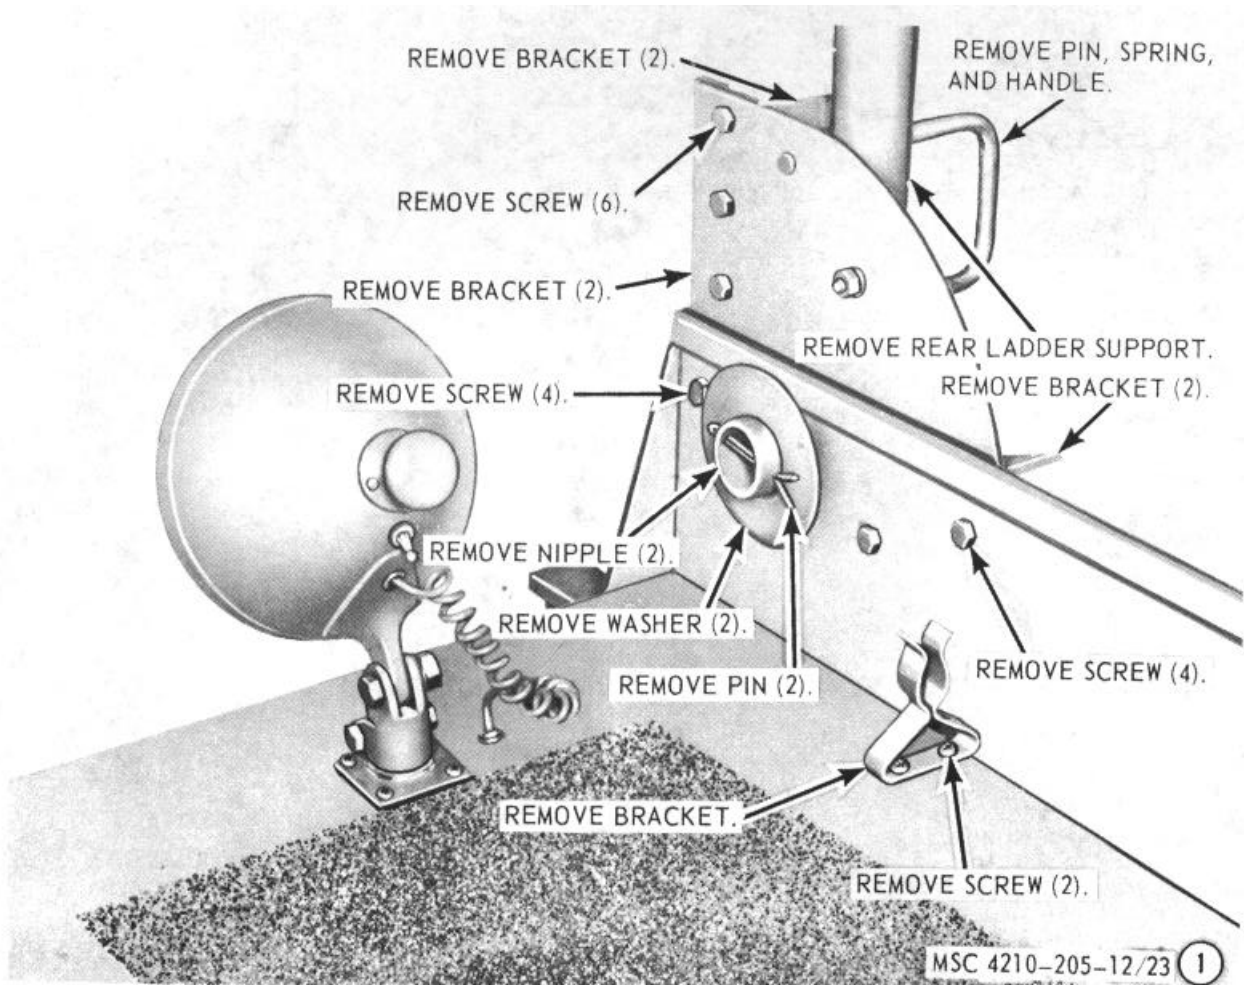

Figure 23. Ladder support assemblies, retainers and fill door, removal and installation.
a. *Removal.* Refer to figure 23, and remove the ladder support assemblies from the special purpose body.
- (1) Clean all parts with an approved cleaning solvent, and dry thoroughly.
- (2) Inspect all parts for damaged or defective condition.
- (3) Replace or repair damaged or defective parts as necessary.
c. *Installation.* Refer to figure 23, and install the ladder support assemblies on the special purpose body.
a. *Removal.* Refer to figure 23, and remove the foam nozzle retainer from the apron.
c. *Installation.* Refer to figure 23, and install the foam nozzle retainer on the apron.
a. *Removal.* Refer to figure 23, and remove the hose retainer from the apron.
c. *Installation.* Refer to figure 23, and install the hose retainer on the apron.
a. *Removal.* Refer to figure 23, and remove the folding steps from the special purpose body.
c. *Installation.* Refer to figure 23, and install the folding steps on the special purpose body.